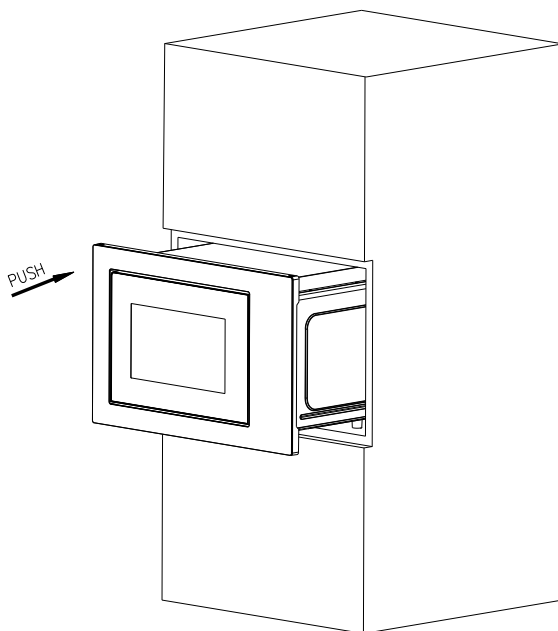

Fig.1
a) Put the microwave oven into built-in cabinet and push it forward to the end. (Fig.1)